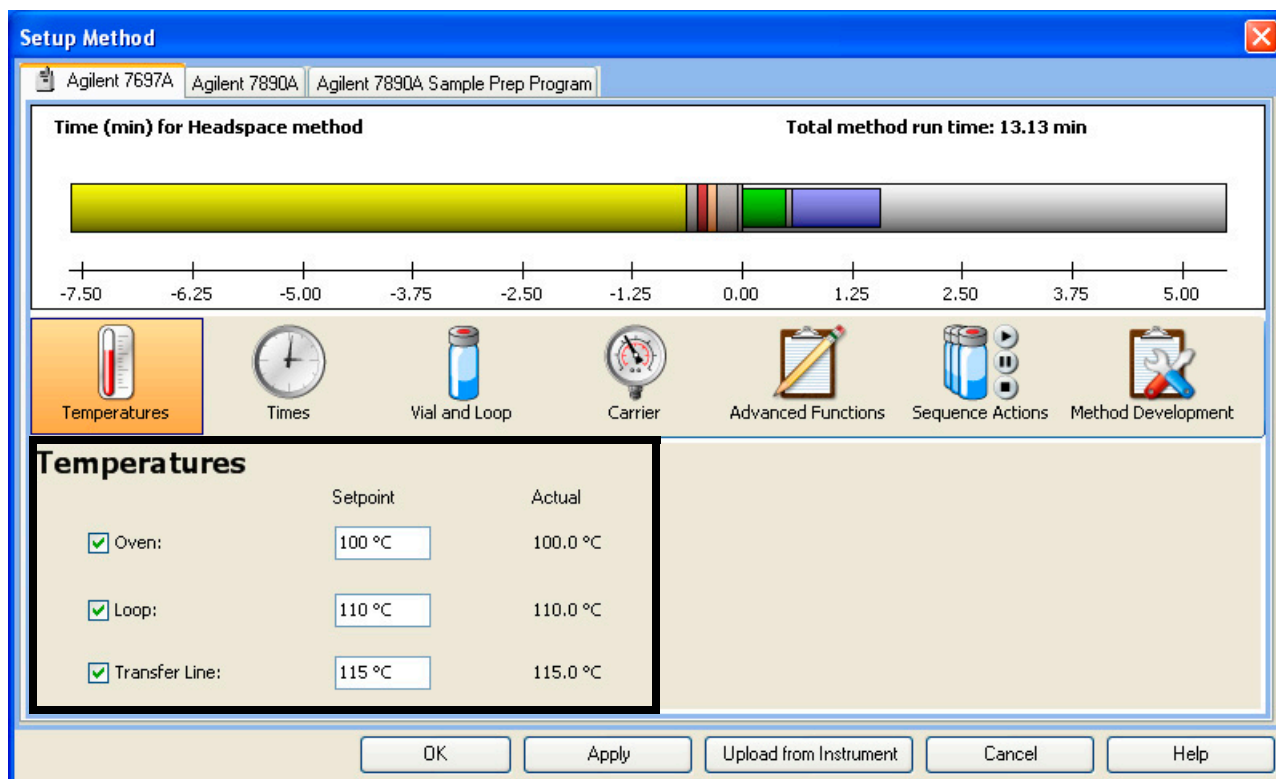

**Figure 14** Setting the temperature parameters
- 3 Select the **Temperatures** icon and set the parameters shown in Figure 14.